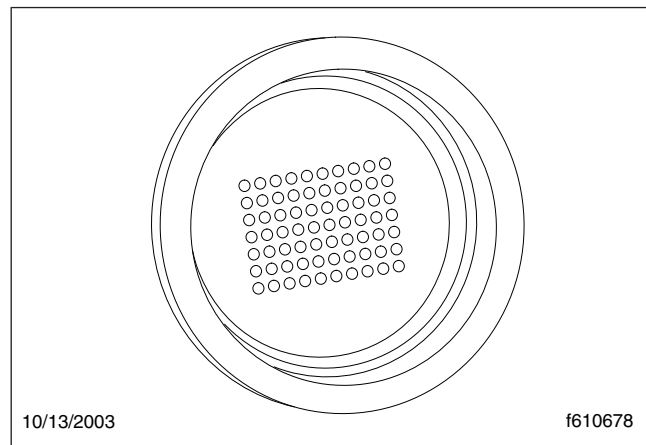

Fig. 8.24, Power-Up Dot Display
3. After the ignition is turned on, the current gear indicator shows the dot display, arranged in a square pattern. All dots in the pattern should light up, without gaps or spaces. See Fig. 8.24.